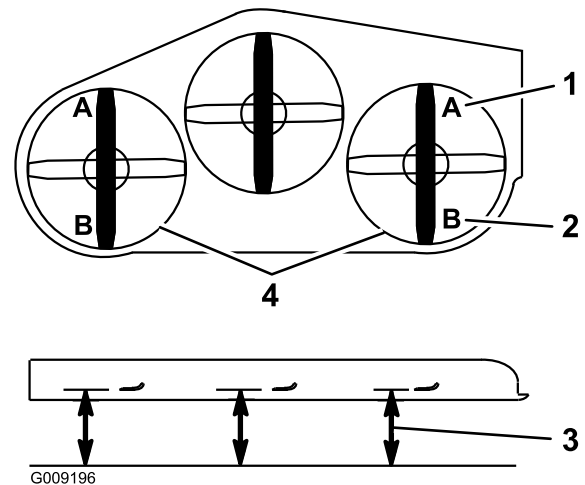

Figure 85
9. On both sides of the deck, measure from the level surface to the front tip of the blade (Position A). The measurement should read 7.6 mm (3 inches) (Figure 85).
- On both sides of the deck, measure from the level surface to the back tip of the blade (Position B). The measurement should read 8.3 cm (3 1/4 inches) (Figure 85).